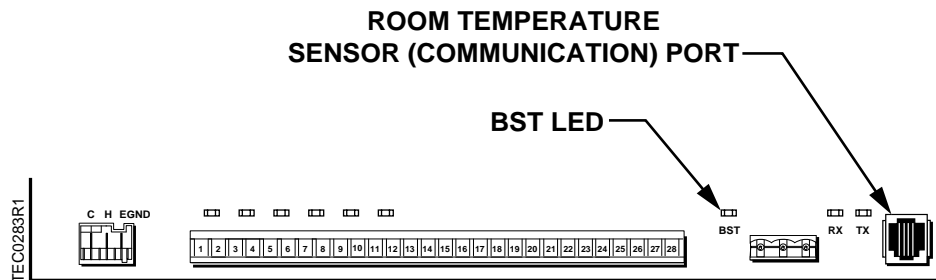

Figure 1. TEC Board Showing Location of BST LED and RTS Port.
3. Verify that the Controller is powered up. Check that the BST LED on the controller is flashing (Figure 1). If the BST LED does not flash on/off once per second, then refer to the *APOGEE Automation Service Procedures* on InfoLink for troubleshooting information.
1. Plug the MMI into the Room Temperature Sensor port (Figure 1).